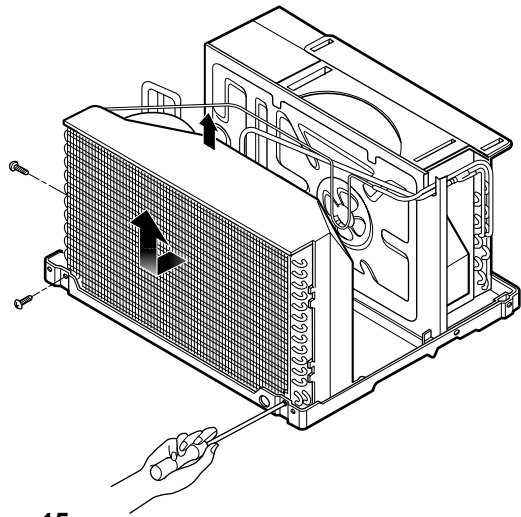

Figure 15
6. Re-install the component by referring to notes. (See Figure 15)